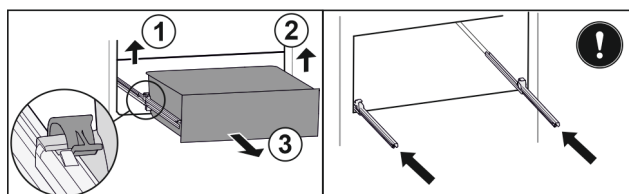

Fig. 112
- Lift left clamp and simultaneously pull drawer forwards on the left. Fig. 112 (1)
- Lift right clamp and simultaneously pull drawer forwards on the right. Fig. 112 (2)
- Remove drawer to the front. Fig. 112 (3)